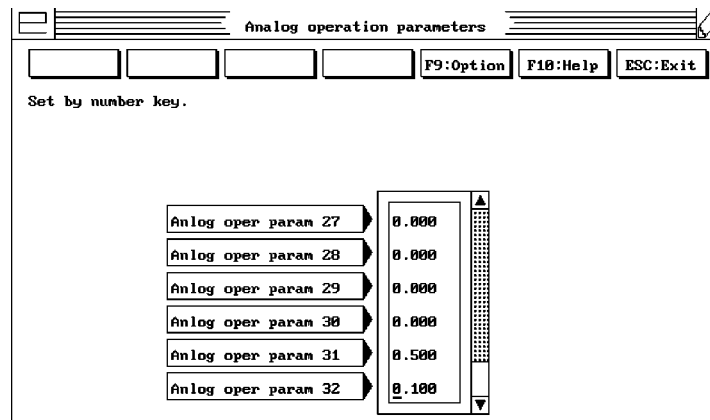

Figure 13
- From the **Analog operation parameters** menu (Figure 12), scroll down until you see **Anlog oper param 32** and select it. Enter the deadband value as a percent of full scale. For example, if you would like a 10% deadband, key in a value of 0.100. This will make a 10% of full scale deadband in your process (Figure 13).